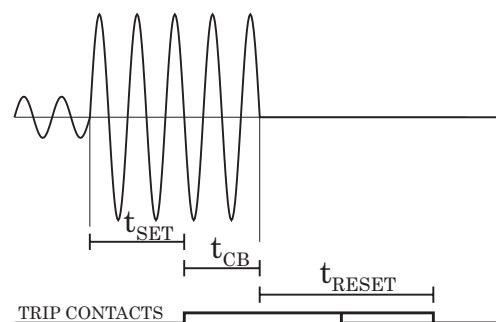

Figure 5.6: Reset time is the time it takes the trip or start relay contacts to open after the fault has been cleared.
Figure 5.6 shows an example of reset time, that is, release delay when the relay is clearing an overcurrent fault. When the relay's trip contacts are closed, the circuit breaker (CB) starts to open. After the CB contacts are open, the fault current still flows through an arc between the opened contacts. The current is finally cut off when the arc extinguishes at the next zero crossing of the current. This is the start moment of the reset delay. After the reset delay the trip contacts and start contact are opened unless latching is configured. The precise reset time depends on the fault size; after a big fault, the reset time is longer. The reset time also depends on the specific protection stage.